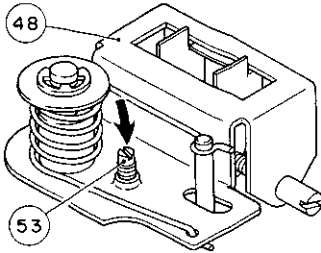
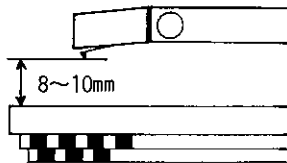

Figure 19
Figure 20
1. Remove the Cabinet top according to DISASSEMBLY INSTRUCTIONS (B) (page 3).
2. Turn the Screw (53) described in Fig. 19 so that the clearance between stylus and turntable platter will be within 8 ~ 10 mm when the tonearm is in up position (Fig. 20).